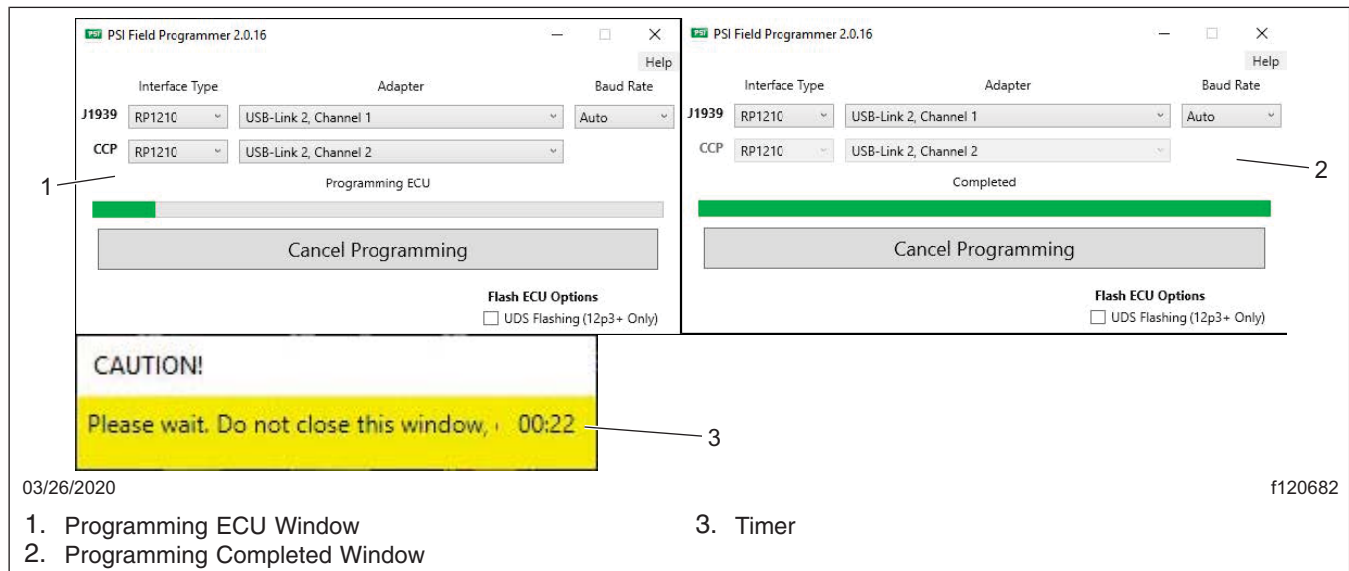

Fig. 15, Programming in Process
3. When 'Available Cal ID' is selected, the tool will check compatibility and then start programming. Once programming is completed, a 25 second timer will appear. When the timer expires, programming will finish. See **Fig. 15**.
2. The software will ask the user to update the ECU. If 'No' is selected, nothing will happen. If 'Yes' is selected, the PSI Field Programmer will proceed to program and recover the ECU out of the boot block mode. The windows shown in Fig. 15 will appear.